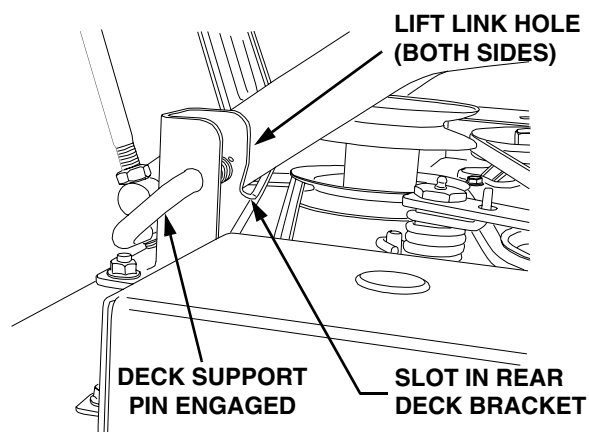

Figure 47
8. Carefully guide the tractor implement lift links (left and right) into the rear deck bracket slots (left and right) as the tractor implement lift handle is lowered to its lowest setting (Refer to Figure 47).
9. Pull both deck support pins outward and rotate rearward to disengage the outer surface to the rear deck brackets. Release the pins, making certain each deck support pin passes through the inner hole of the rear deck bracket. The spring tension will push the pins inward and, if aligned, through the hole in each implement lift link (See Figure 47).